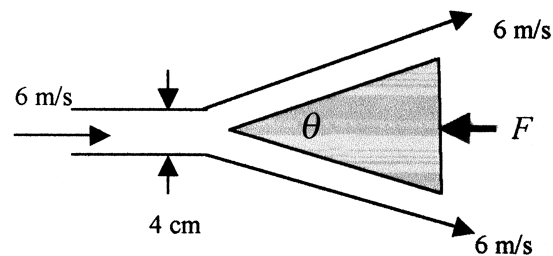

Fig. P3.30
**3.30** A wedge splits a sheet of 20°C water, as shown in Fig. P3.30. Both wedge and sheet are very long into the paper. If the force required to hold the wedge stationary is  $F = 124$  N per meter of depth into the paper, what is the angle  $\theta$  of the wedge?